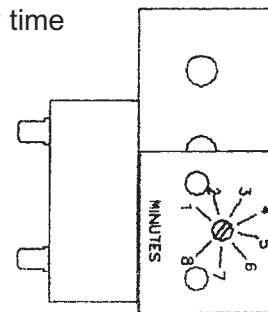

Figure 1
**Standard single batch timer:** RAP and P models without half batch include this timer, (see Figure 1). This timer is adjustable from 1 to 8 minutes. After removing the cover, do the following: